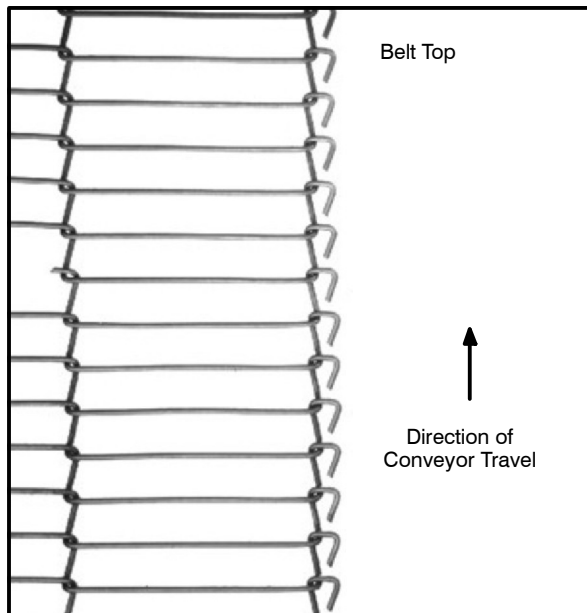

Figure 7
4. Install the conveyor belt as shown. See Figure 7 through Figure 13.